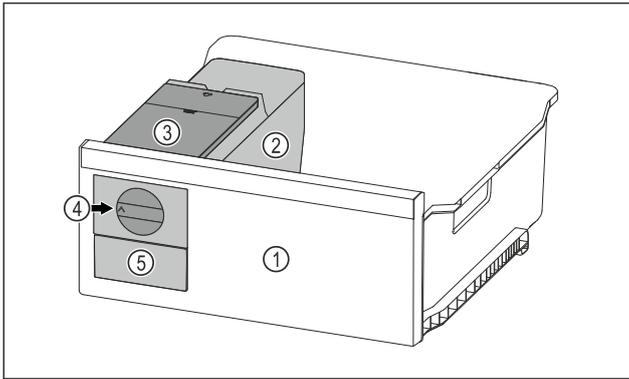

Fig. 102 Example illustration
- ▶ Turn the rotary knob Fig. 102 (4) clockwise as far as it will go.
▷ Ice cubes fall from the ice cube tray into the ice cube drawer Fig. 102 (5).